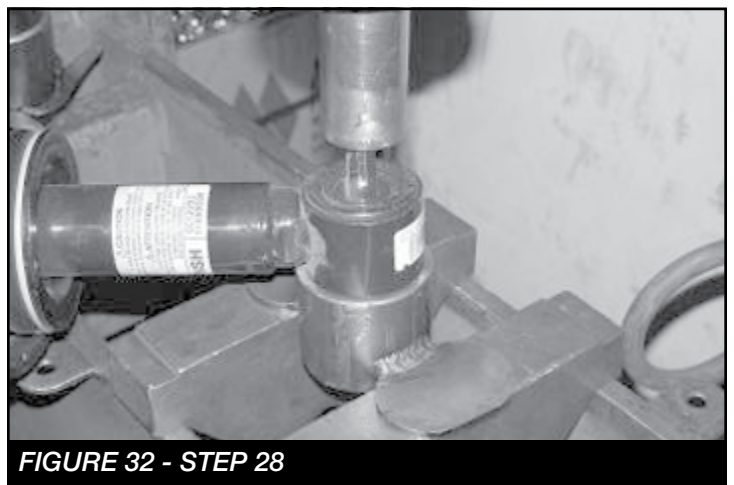

**FIGURE 30 - STEP 26**
26. Locate FT20304 Skid Plate and the supplied 1/2" x 1-1/4" hardware and attach the rear of the skid plate to the bottom of the rear crossmember. Use the supplied 7/16" x 1 1/4" hardware and attach the front of the skid plate to the front crossmember (**MAKE SURE THAT THE DIFF IS CLEARANCED ENOUGH TO CLEAR THE SKID PLATE**). **SEE FIGURE 30**